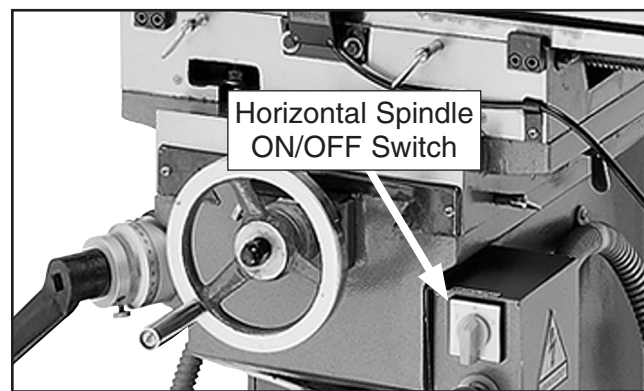

Figure 19. Horizontal spindle ON/OFF switch.
3. Using the ON/OFF switch shown in **Figure 19**, turn the spindle **ON** in the appropriate direction, based on the cutting tool setup.